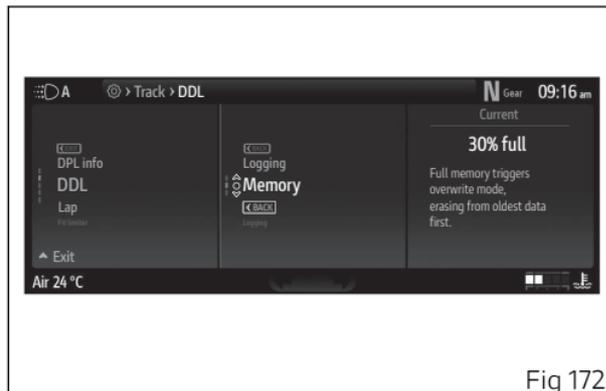
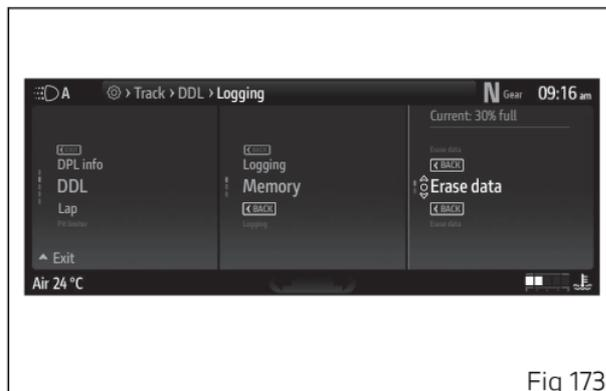

Fig 172
Fig 173
- Select “Memory” (Fig 172) .
To delete recorded data, select the “Memory” (Fig 172) item and press \odot ; “Erase data” (Fig 173) item is now displayed. To confirm deletion, press button \odot .